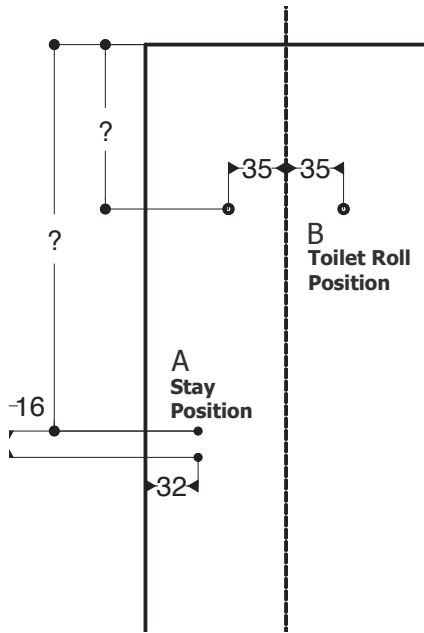

Fig.1 (Back of door)
1. Once door is attached to cabinet, mark stay position on back of door as shown in **Fig.1**. The height position vary depending upon customers preference on door opening position.
1. Mark out the centre point on the back of the door (Shown in **Fig.1 B**).
3. Once you have selected a point on the door that suits drill a small shallow pilot hole 35mm either side of the centre line (**Fig.1 B**).